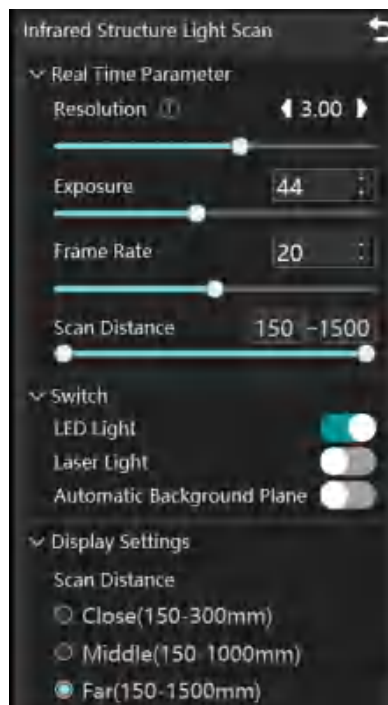

Figure 7-17 Parameters of Far Distance Scanning
1. Before scanning, click Settings and select "Far (150mm-1500mm)" in Scan Distance. The default resolution for far distance scanning is set to 3.0, which is shown in Figure 7-17. This value can be modified as needed based on specific application requirements.